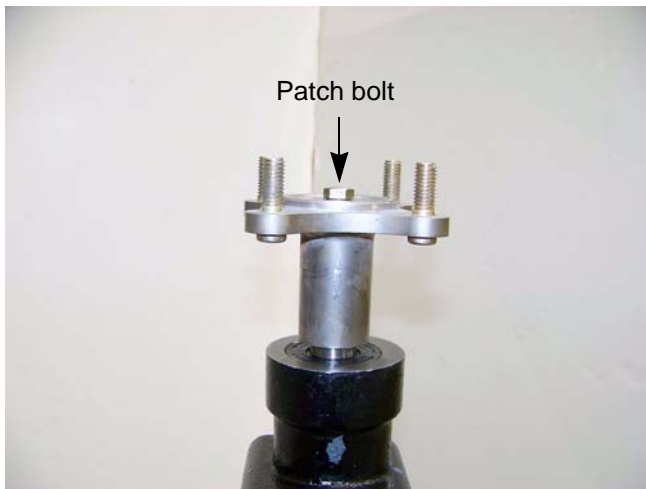

Figure 5.41
14. Stand the transmission up on end so that the left hub is facing up. See Figure 5.41.